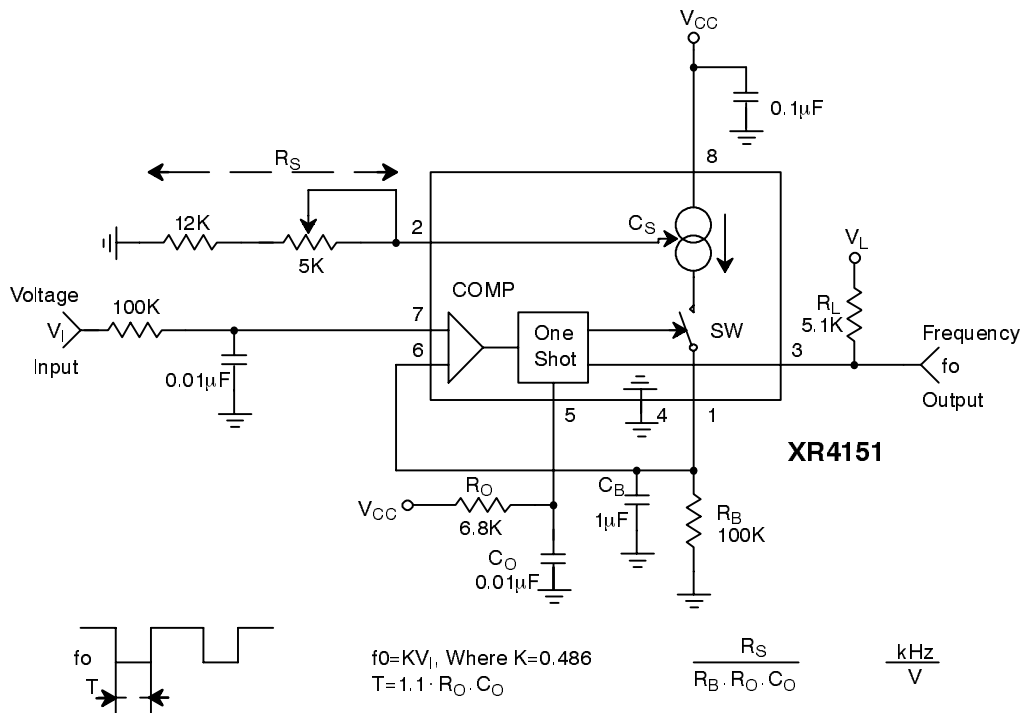
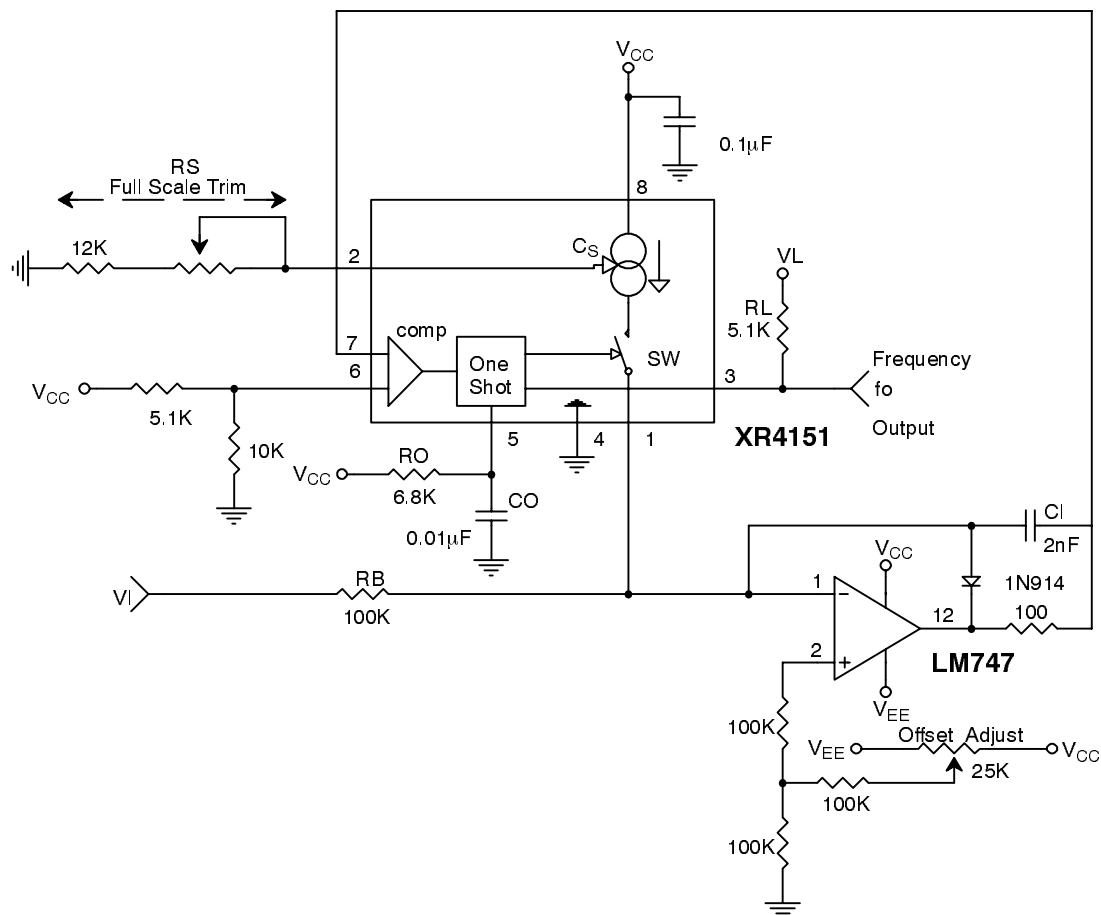

Figure 2. Voltage-to-Frequency Converter
Figure 3. Precision Voltage to Frequency Converter
In this application, the XR4151 functions as a stand alone voltage-to-frequency converter operating on a single positive power supply. Refer to the functional block diagram and *Figure 2*, the circuit connection for single supply voltage-to-frequency conversion. The XR-4151 contains a voltage comparator, a one-shot, and
Figure 2 shows the simplest type of VFC that can be made with the XR4151. The input voltage range is from 0 to +10V, and the output frequency is from 0 to 10kHz. The full scale frequency can be tuned by adjusting R_S , the output current set resistor. This circuit has the advantage of being simple and low in cost, but it suffers from inaccuracy due to a number of error sources. Linearity error is typically 1%. A frequency offset will also be
introduced by the input comparator offset voltage. Also, response time for this circuit is limited by the passive integration network $R_B C_B$. For the component values shown in Figure 2, response time for a step change input from 0 to +10V will be 135msec. For applications which require fast response time and high accuracy, use the circuit of Figure 3.
In this application (*Figure 3*) the XR4151 is used with an operational amplifier integrator to provide typical linearity of 0.05% over the range of 0 to -10V. Offset is adjustable to zero. Unlike many VFC designs which lose linearity below 10mV, this circuit retains linearity over the full range of input voltage, all the way to 0V.
The operational amplifier integrator improves linearity of this circuit over that of *Figure 2* by holding the output of the source, Pin 1, at a constant 0V. Therefore, the linearity
4. Avoid stray coupling between pins 5 and 7; it could cause false triggering. For the circuit of *Figure 2*, bypass pin 7 to ground with at least $0.01\mu\text{F}$. This is necessary for operation above 10kHz.
1. Set $R_S = 14k\Omega$ or use a 12K resistor and 5K pot as shown in the figures. (The only exception to this is *Figure 3*).
3. a) For the circuit of *Figure 2* make $C_B = 10^{-2} [1/f_0]$ Farads.
4. a) For the circuit of *Figure 3* keep the values of R_B as shown and use an input attenuator to give the desired full scale input voltage.
- b) For the precision mode circuit of *Figure 3*, set $R_B = V_{IO}/100\mu A$ where V_{IO} is the full scale input voltage.